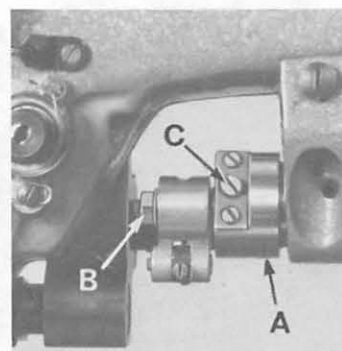

Fig. 28
If this is not so, turn the handwheel in the operating direction to a point where the puller roller starts to revolve. Loosen the two set screws holding the puller drive shaft head (A, Fig. 28), hold the puller drive shaft head in place and turn the handwheel until the tops of the feed dog teeth are flush with the top of the throat plate at the beginning of the feeding cycle. Retighten set screws, making sure that all end play is removed from the puller drive shaft.
This adjustment is accomplished by loosening lock nut (B, Fig. 28) (it has a left hand thread) on the end of the puller regulating stud. Turn screw (C) clockwise to decrease the puller roller travel or counterclockwise to increase the puller roller travel. Retighten lock nut (B).